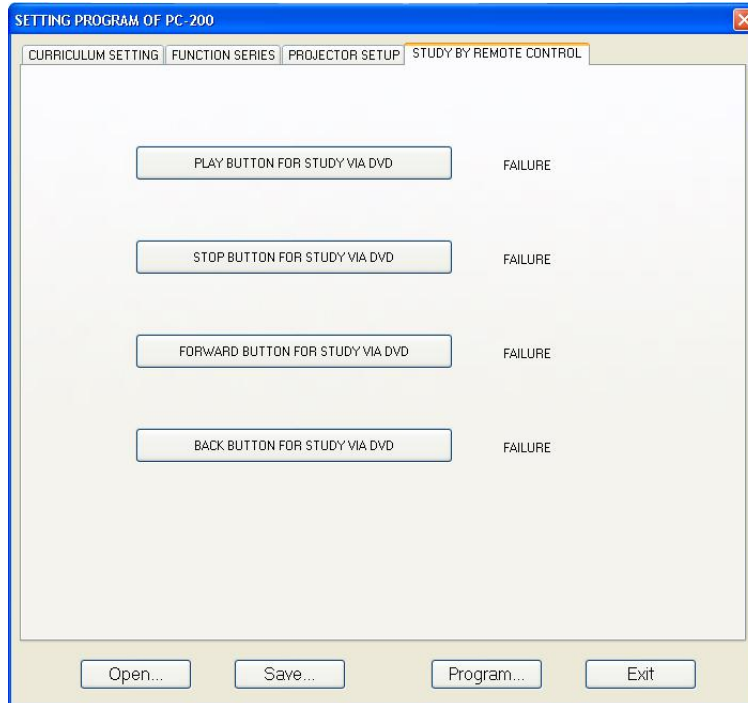

Fig. 25
2. Select the "Study by remote control" tab. Now a window as shown in figure 25 will pop up.